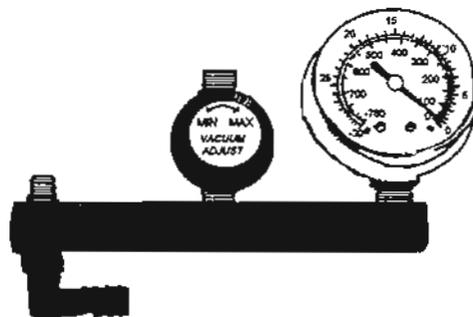

Figure 3-3. Vacuum adjust control.
- (6) Rotate the operating mode selector switch to the "BATTERY" position. Observe that the vacuum pump operates, the vacuum gauge needle indicator oscillates, and the green "POWER" indicator is illuminated.
- (7) Rotate the operating mode selector switch back to the "OFF/CHARGE" position.
b. *"VACUUM ADJUST" control (fig 3-3).*